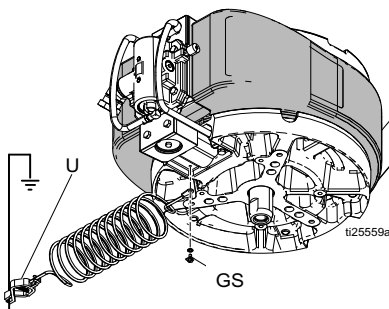

Fig. 3
*XL 10000 Pumps™*: See figure 3. Verify that the ground screw (GS) is attached and tightened securely to the air motor. Connect the clamp (U) of the static ground cable (H) to a true earth ground. For a ground wire and clamp, order part No. 244524.